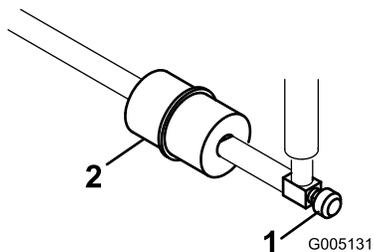

Figure 43
The in-line fuel filter is in the fuel line between the fuel tank and carburetor (Figure 43).
1. Close the fuel-shutoff valve (Figure 43).
2. Place a drain pan under the filter, loosen the hose clamp on the carburetor side of filter, and remove the fuel line from the filter (Figure 43).
3. Loosen the other hose clamp and remove the filter (Figure 43).